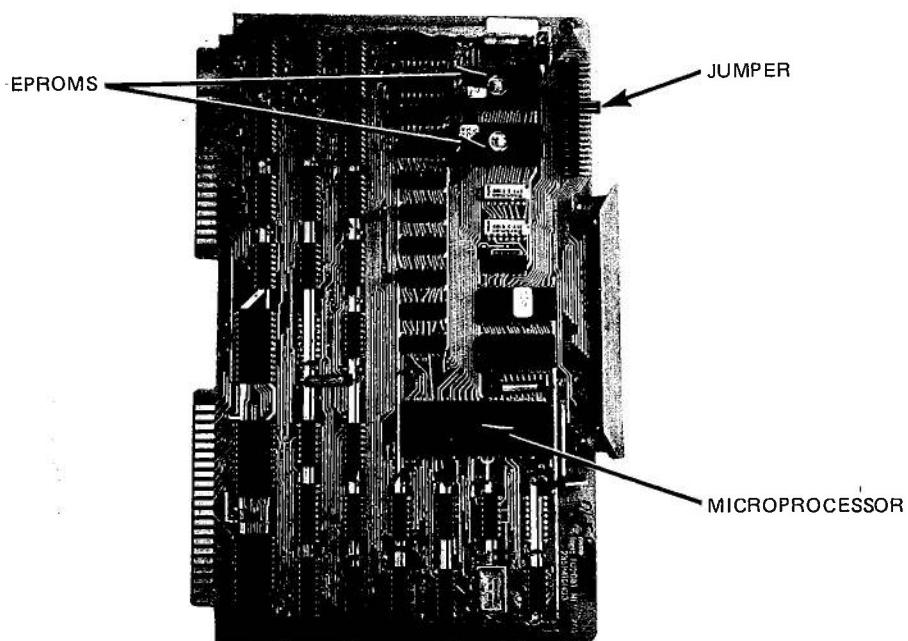

Figure 9-17. PC-700 CPU Module Jumper Location
7. **PC-700 only** — Check to see that the jumper is installed on the CPU module's connector, between Pins 8 and 9 from the right or top of the inner row. The jumper connects the PROMs with the microprocessor; therefore, the processor will not operate if the jumper is missing. See Figure 9-17.
9. **PC-700 only** — Check to see that the microprocessor IC and EPROMs are securely seated and positioned properly into their sockets on the CPU module. See Figure 9-17.